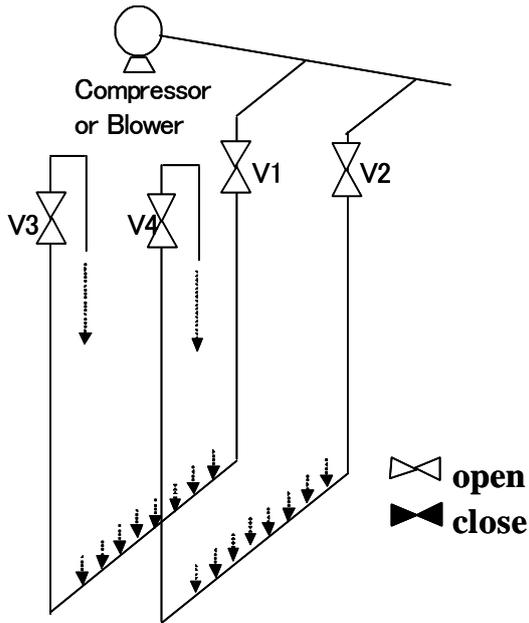

Fig. 14 Condition when cleaning process
- (2) Keep this stop operation condition for about 5 seconds. After that, open V1 and V2 valve. At this step, the material deposit inside the diffuser holes and diffuser tank will come out through V3 and V4 together with the water (Cleaning operation, see Fig. 14).